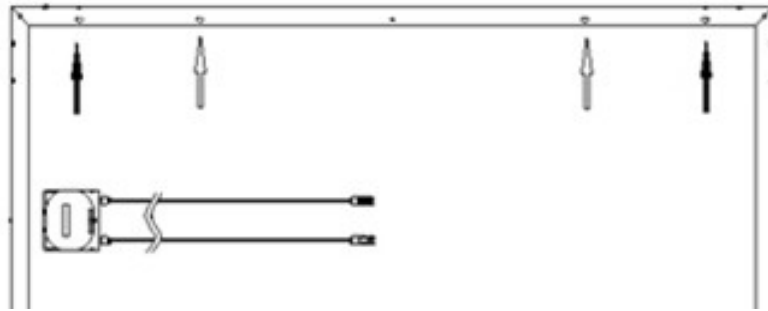

FIG 4 Mounting holes
- The frame of each module has 4 mounting holes used to secure. As shown in Figure 4, four